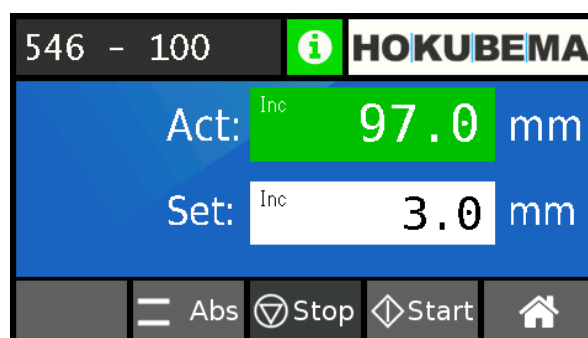

Figure 54: Setpoint reached
- The “**Act:**” field changes to green as soon as the target position “**Set:**” is reached (see ⇒ Figure 54).